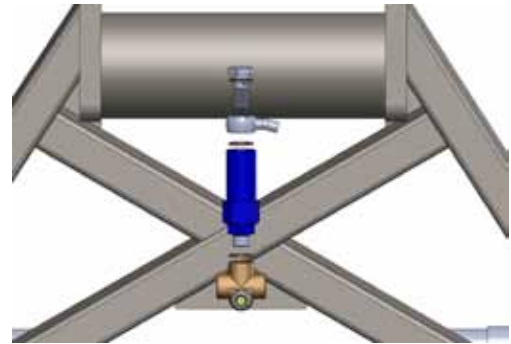

Figure 7
c. Connect blue pressure residual valve to t-block using a crush washer between the two. Torque to 17-19 lb. ft. Figure 7
d. Connect OE brake line from rear master cylinder to pressure residual valve using 10mm single banjo bolt and two crush washers. Torque 17 to 19 lb. ft. Use OE brake line clamp and screw to secure to swing arm. Figure 7